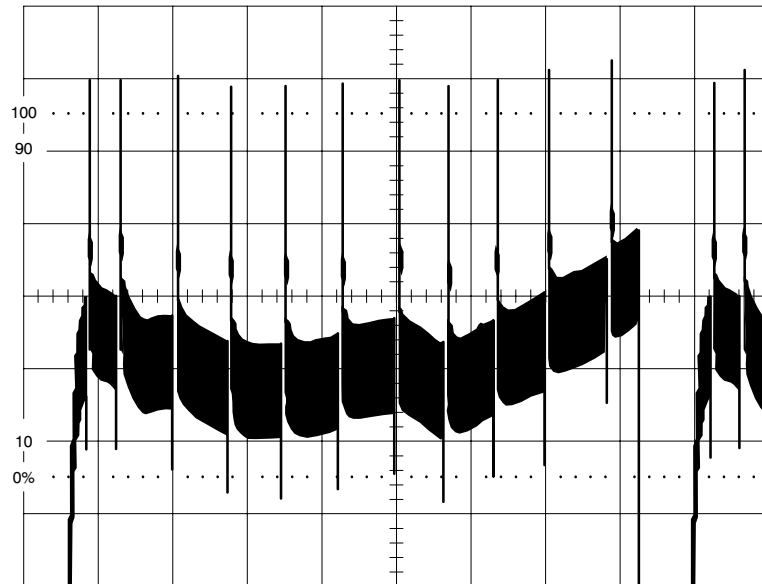

Figure 6-7: Display for adjusting flatness
13. Measure the sweep envelope. See Figure 6-7.